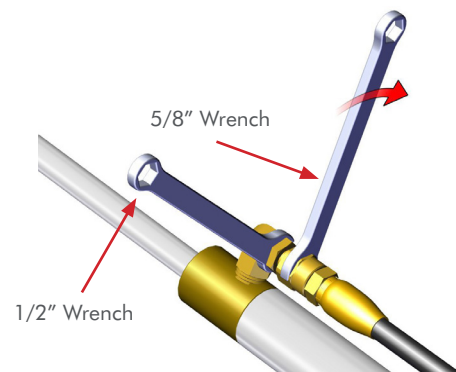

Figure 6
STEP 4 While holding the **UP Cylinder Fitting Base** with a **1/2" Wrench**, turn the **UP Hose Fitting** clockwise a quarter turn with a **5/8" Wrench**. **FIG 6**